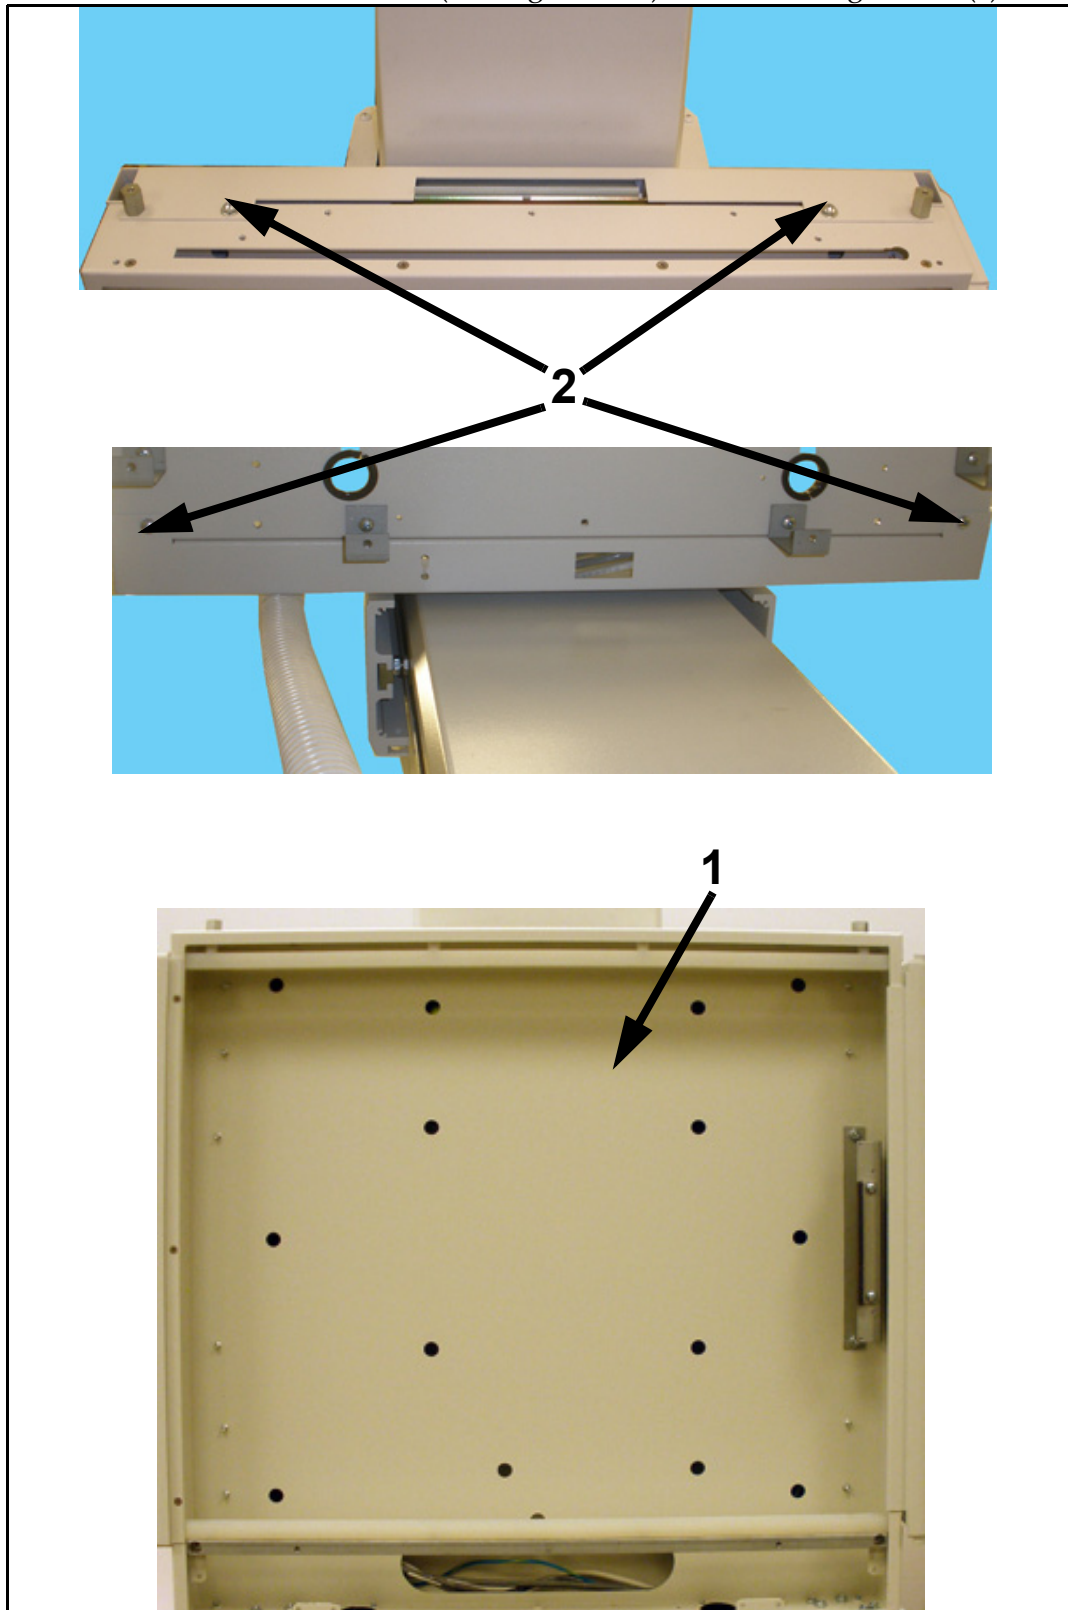

Figure E-35. Frame Installation
44 Reinstall frame (1 in Figure E-35) with mounting screws (2).